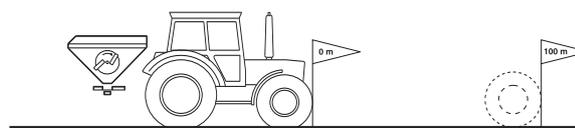

Fig. 23
- On the field, measure out a calibration distance of exactly 100 m. Mark the start and end point of the calibration distance (Fig. 23).